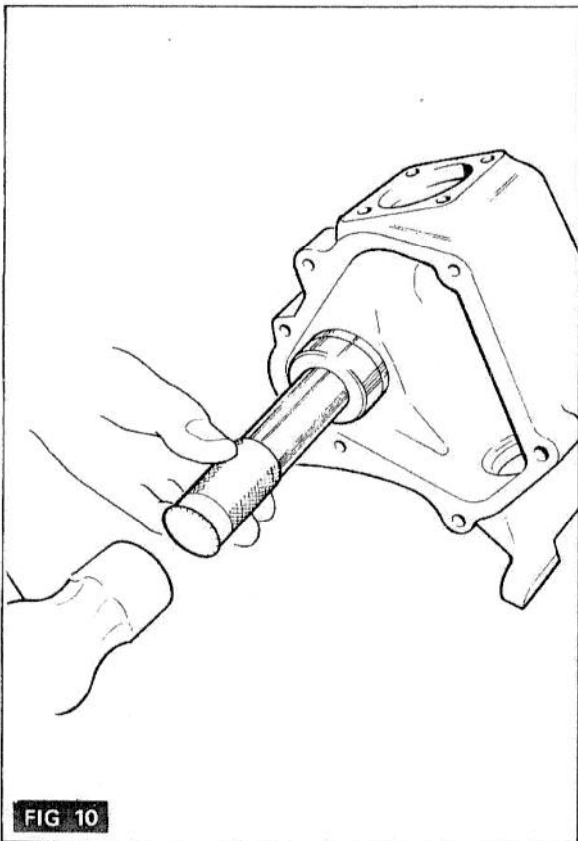

FIG. 10
1. (Fig. 10) Position the new bush squarely over its bore and drive the bush in using tool MF 263-2 and 550 handle.